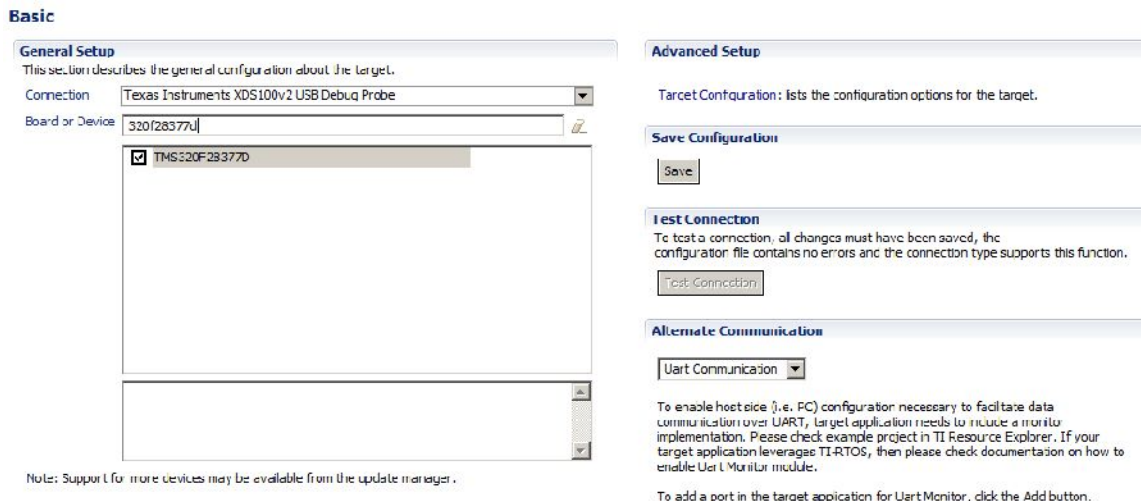

Figure 9. Configuring a New Target
6. This opens up a new tab as shown in Figure 9. Select and enter the options as shown: